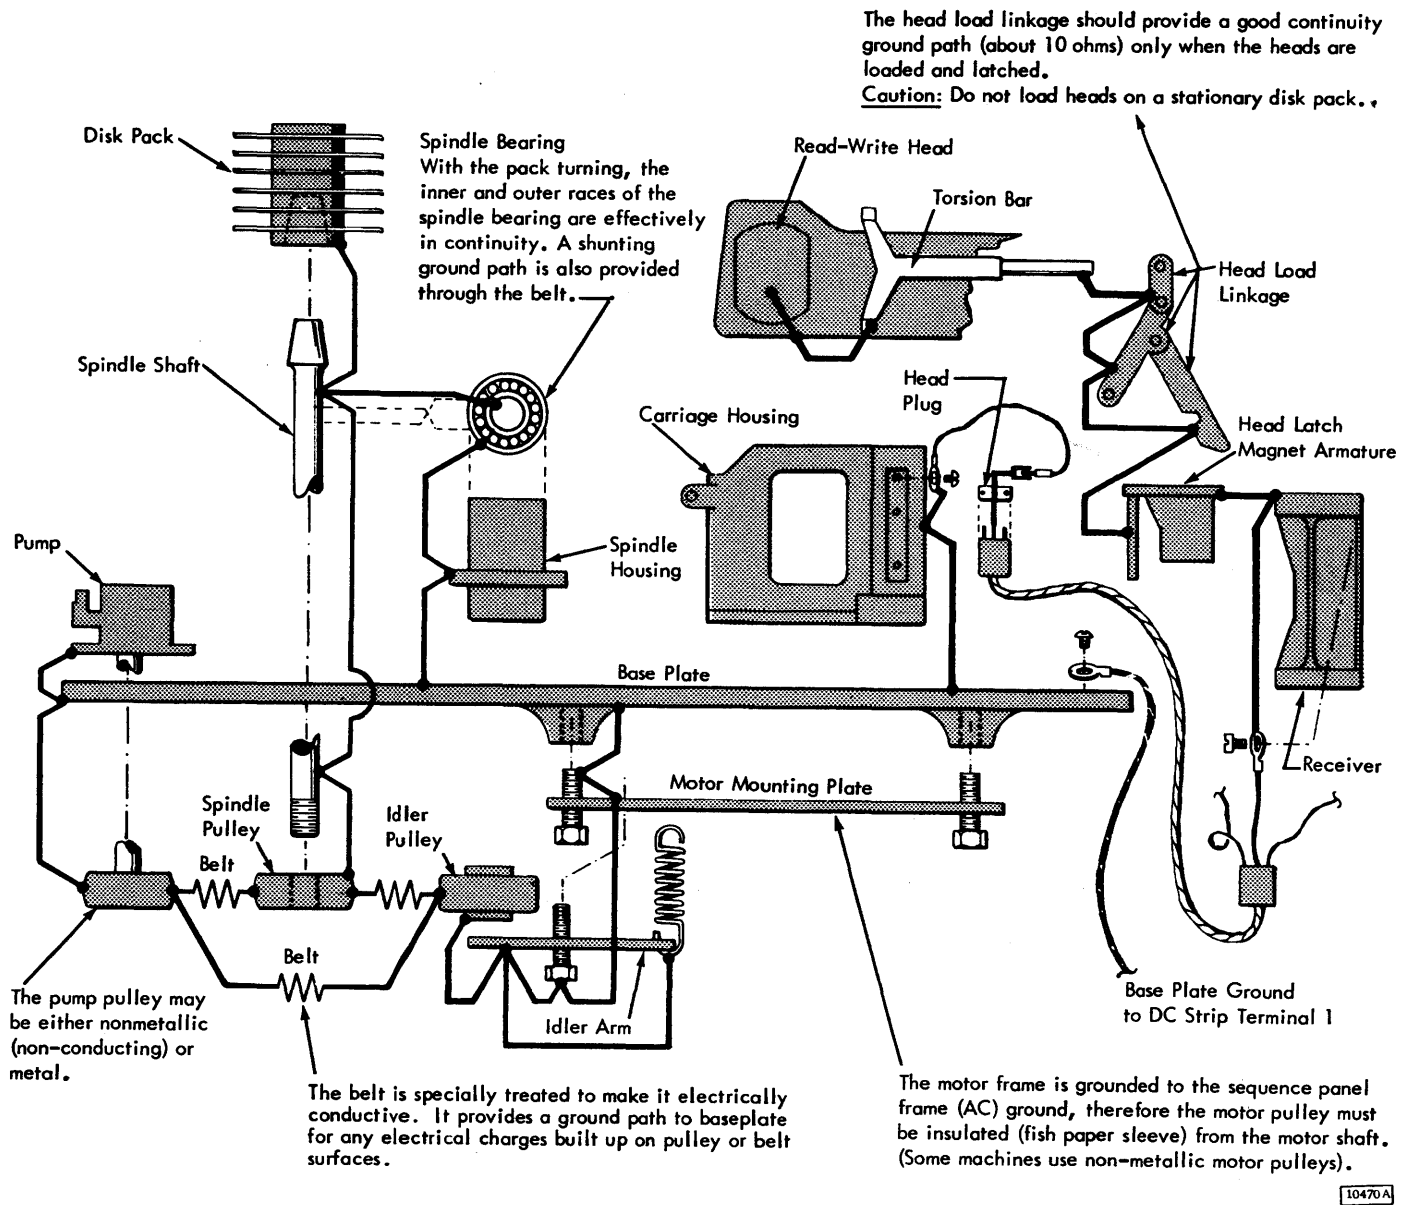

Figure 4-22. Baseplate Grounding System
4.22.5 Read/Write Head to Base Plate Resistance Check (Figure 4-22)